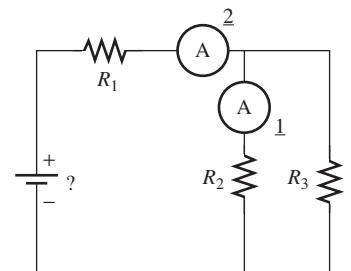

FIGURE P14.16
- 14.16** (H)* A circuit is shown in Figure P14.16; $R_1 = 100\ \Omega$, $R_2 = R_3 = 150\ \Omega$. Assume you have an ammeter with $5\ \Omega$ internal resistor (R_{int}), and want to calculate the source voltage